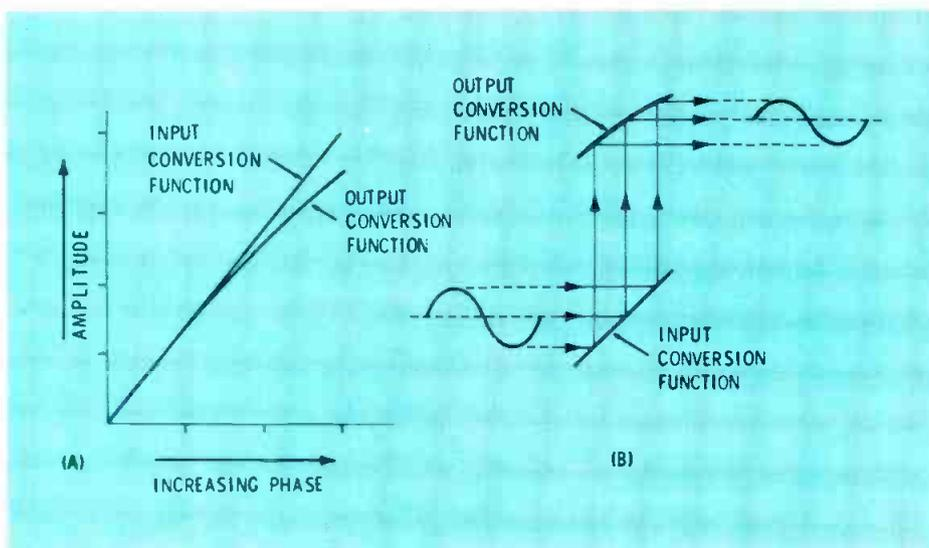

Figure 5
conversion. Unfortunately, in this form they are not true complements of one another; the function of one is not precisely the inverse function of the other. The input conversion relationship (2) is a linear function. The output conversion relationship (1) is trigonometric. Graphed together as in Fig. 5(a), they track rather closely except at the high end, where the output function falls off more rapidly. The net result